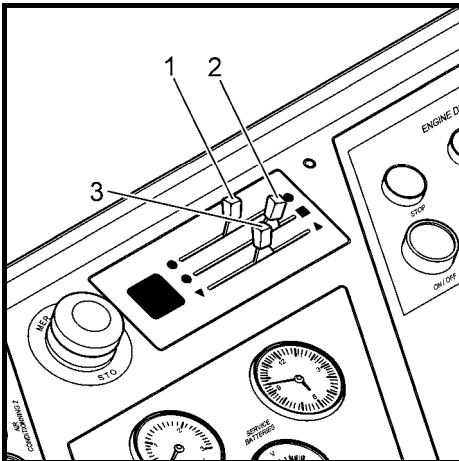

Fig. 44
Push the lever (Fig. 44, pos. 1) all the way forward to close off the water supply.
Move the lever 2 (Fig. 44,) to regulate the amount of fresh air / recirculated air coming into the cab.
The amount of water running through the heat exchanger can be regulated by moving the lever 1 (Fig. 44). If the regulator is pushed all the way to the rear, the maximum amount of coolant flows to the heater.
For air conditioner operation during the summer time, preferably close the coolant shut off valves on the Diesel engine, push the lever (Fig. 44, Pos. 1) all the way to the front and turn the heater blower off via button 33.